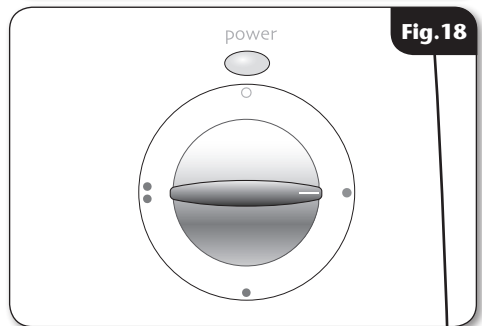

Fig.18
- Turn the power selector to the 'COLD' position (fig.18) and wait until water starts to flow from the flexible hose.